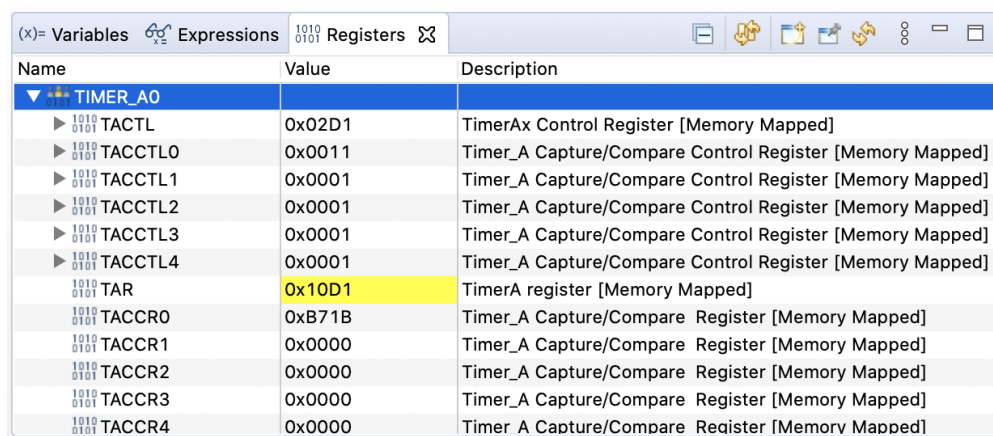

Figure 15: Registers window in debug mode.
- The latest register values can be checked in the registers window embedded in the screen (Figure 15). For example, it may be observed that the `TAR` register under the `Timer_A0` changes value each time it is paused. This is the register that holds current value of the timer.